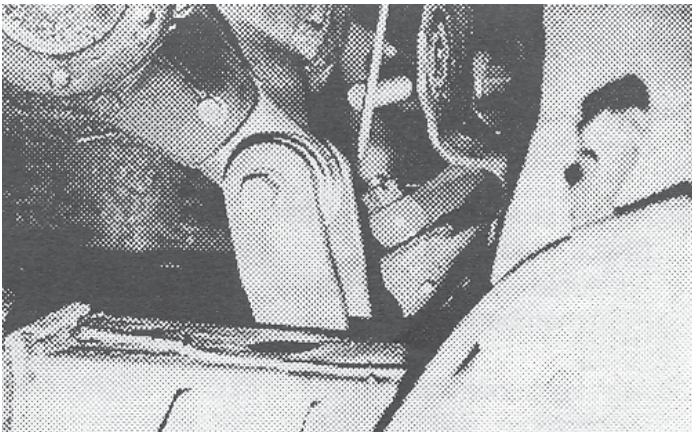

Fig. 23
22. Make steering sweep checking clearance between relay rod and differential ear on DVR side. **Fig. 23.** **Warning: Minimum acceptable clearance 7/16".**
27. Make steering sweep. Again check clearance between relay rod and differential ear. **Refer to Fig. 23 Warning: Minimum acceptable clearance 7/16".** In the event that clearance dimension is less than 7/16", you must revert to steps 23-27. If clearance measurement is sufficient, torque 9/16" cross bolts in brackets "CR" and "CL". Continue to step 29.